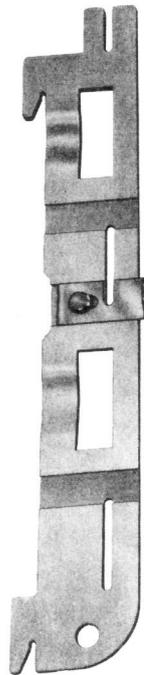

Fig. 27—KS-20950, List 1 Cover Parking Tool
- KS-20950, List 1 cover parking tool (Fig. 27)—1-type set only
2	For a 1-type set: Remove cover unit assembly and hang it on a KS-20950, List 1 cover parking tool (Fig. 27). If parking tool is not available, or cannot be used with the station, disconnect P1, place cover unit assembly on a firm level surface, and connect a P11C cord between P1 and J1 of coin chassis.